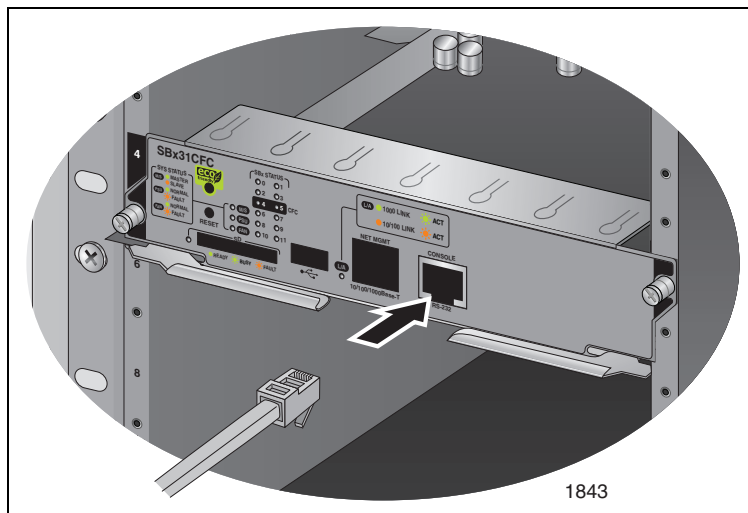

Figure 58. Connecting the Management Cable to the Console RS-232 Port
1. Connect the RJ-45 end of to the Console RS-232 Port on the front panel of the AT-SBx31CFC Fabric Control Card, as displayed in Figure 58.